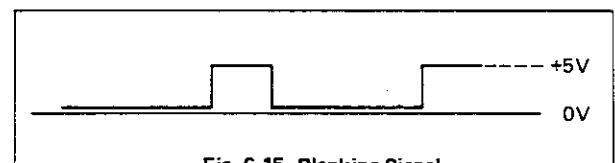

Fig. 6-15 Blanking Signal
- (3) Check that the blanking signal (Z'' IN.) as shown in Fig. 6-15 is observed at Pin 13 of Connector P2.